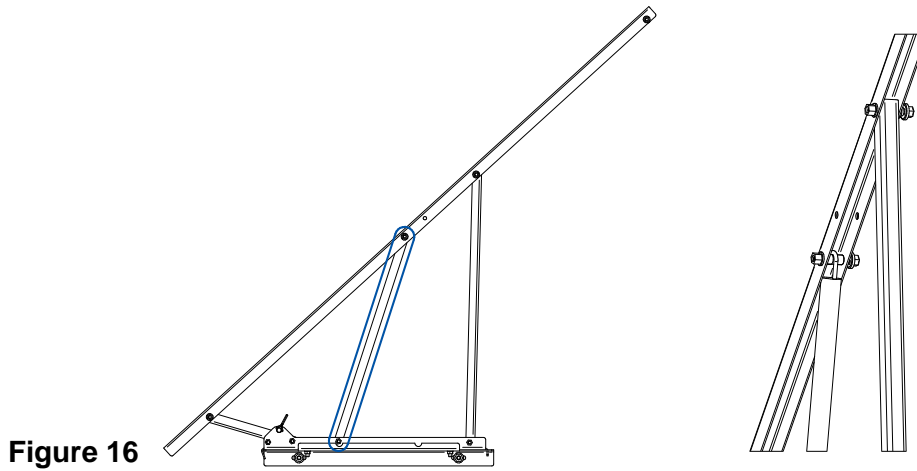

Figure 16
16.1. On up to 300 series, install 3,8x21x500mm springs like shown on figure 16.